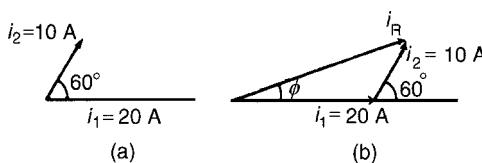

Figure 14.12
- (a) The relative positions of  $i_1$  and  $i_2$  at time  $t = 0$  are shown as phasors in Fig. 14.12(a). The phasor diagram in Fig. 14.12(b) shows the resultant  $i_R$ , and  $i_R$  is measured as 26 A and angle  $\phi$  as  $19^\circ$  or 0.33 rads leading  $i_1$ .
- (b) From Fig. 14.12(b), by the cosine rule: